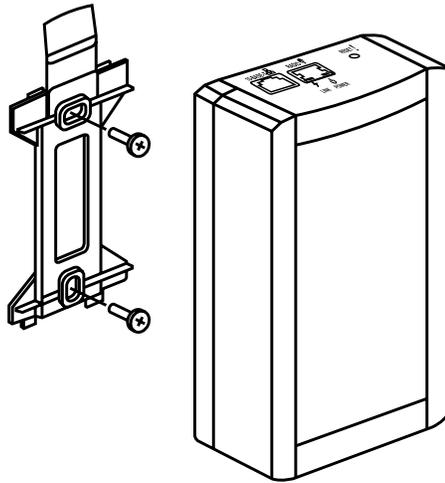

Figure 3-5. Wallmounting the indoor unit.
1. Remove the wall-mounting bracket clipped to the back of the indoor unit and mount it on a wall as shown in Figure 3-5. Mount the indoor unit on the mounting bracket.